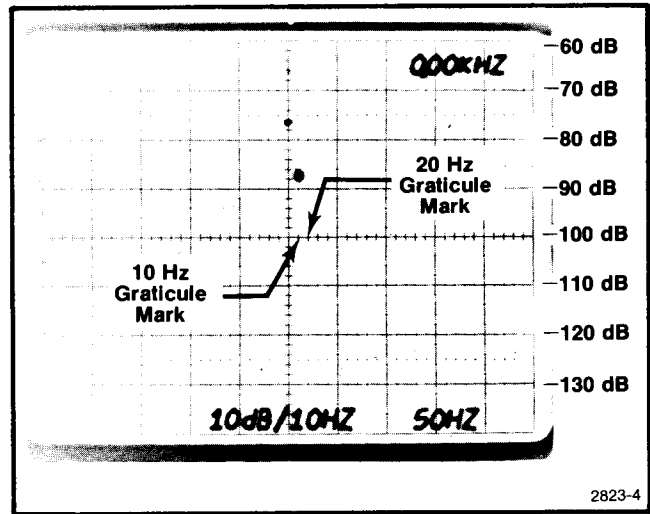

Fig. 4-1. 10 Hz null adjustment.
e. Set the 7L5 A & B to off and manual sweep. Adjust the 7L5 manual sweep dial to position the dot horizontally in line with the 10 Hz graticule mark (see Fig. 4-1). Adjust the 7L5 Reference level control to position the dot vertically on the top graticule line. This line is the -60 dB reference level
f. Set the calibration fixture Mode to Notch (in) position and the Atten to 0 dB (out). Adjust the SG 505 FREQ VERNIER dial and the calibration fixture Adj For Null controls to position the dot vertically to the most stable point below the -80 dB level on the display. (See Fig. 4-1.) Set the 7L5 A & B to the on position and normal sweep mode.
- k. Repeat step 9 parts e through h using the 20 Hz graticule mark on the display for step 9 part e (see Fig. 4-1).